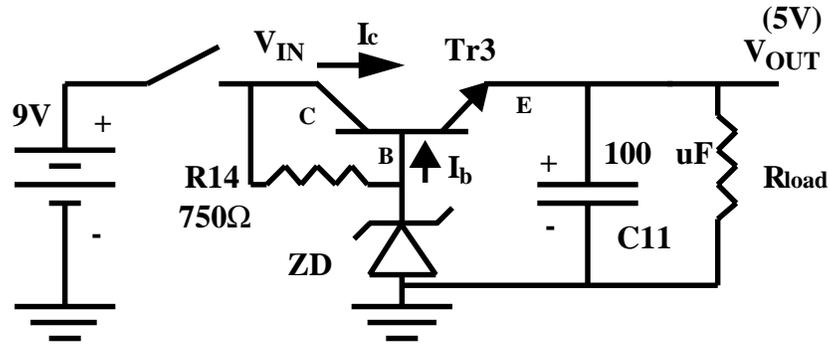
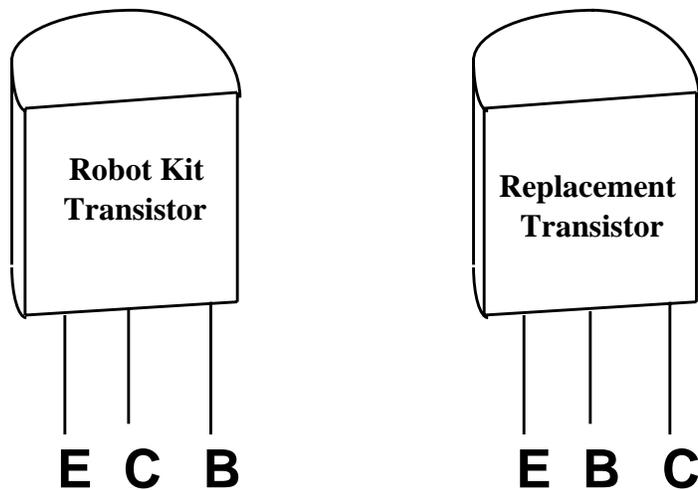

Figure 5.1 Power Supply Regulator.
Figure 5.2 Transistor lead configurations.
The voltage regulator circuit consists of 5 different components; a 9V battery, a resistor, a diode, a transistor, and a capacitor. You may wish to review the description of the operation of these components in the Lab Guide. The circuit you will be building is shown in Fig. 5.1 . The pin out for the transistor is shown in Fig. 5.2 -
please be very careful, interchanging the base and collector will result in immediate destruction of the transistor. If you are using the replacement transistor rather than the one that comes in the robot kit, its leads come out in a different order (shown on the left in Fig. 2). For more details on identifying the E, B, and C terminals of your transistors see the Lab Guide. Another potential problem is that the capacitor is electrolytic - which means that it can only stand to have voltages applied in one direction. If voltages are applied contrary to the sign of the label on the capacitor it will be destroyed. Note, this circuit is also shown in the Graymark Robot Assembly Manual in Figure T2 - but it may be **WRONG**. The Zener diode may be incorrectly connected with the arrow pointing toward ground. Follow the schematic shown above in Fig. 5.1 or in the schematic in Chapter 1 of this manual.
1. First, build the circuit shown in Fig. 5.1 on your proto-board. See Chapter 1 and Chapter 3 for a description of the Zener diode. The transistor is TR3, a 2SC2120 (see
Fig. 5.2 for its terminal connections). See Fig. 5.1 to determine how the voltage regulator circuit should be wired together. Connect the voltage regulator output to a $4.7\text{K}\Omega$ resistor (which will give you a load current of about 1mA) which acts as the load resistance, R_{Load} . For testing purposes, we are replacing the battery with the $0\text{--}+20\text{V}$ power supply. Connect the Common terminal to the bottom of the diode and C11. Make sure you set the $+20\text{V}$ output of the power supply output voltage to 0V before you connect the $+20\text{V}$ terminal of the power supply to the transistor collector and R14. Measure the output capacitor voltage, V_{OUT} , for varying values of power supply voltage, V_{IN} , starting at 0 volts and increasing the supply by 1 volt steps until it reaches 9 volts. As you increase the power supply voltage keep an eye on the ammeter on your power supply. If it moves noticeably, immediately turn the voltage back down and check your circuit.